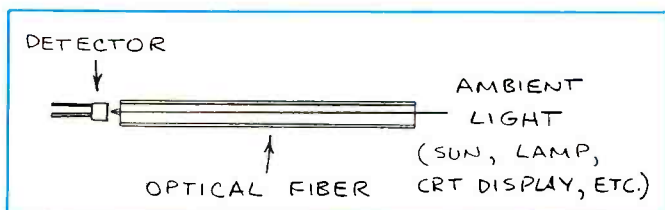
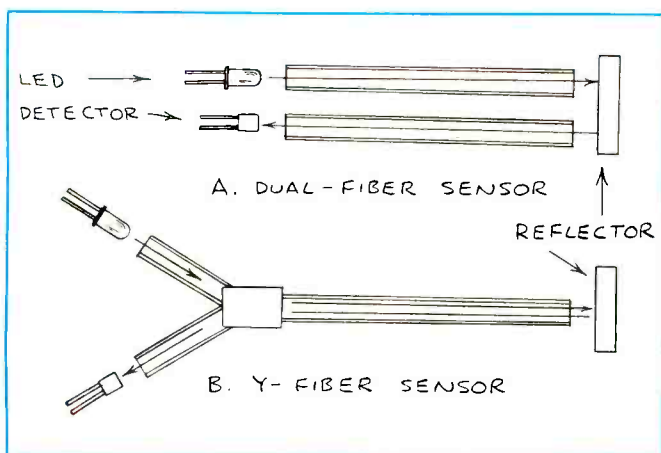

Fig. 1. Details of the simplest indirect-mode fiber-optic sensor.
Fig. 4. An indirect-mode reflective fiber-optic sensor.
Figures 1 through 4 illustrate three basic kinds of indirect-mode fiber-optic sensors. Many different kinds of fiber can be used. In most cases, inexpensive plastic or glass fiber with a large core diameter
Figure 1 illustrates the simplest fiber-optic sensor. Here the fiber serves to transmit ambient light to a detector. A simple circuit connected to the detector can switch on an alarm or trigger another circuit when the exposed end of the fiber receives light from any external source, or when light being received is momentarily blocked. If the light source is stable or if its intensity changes slowly and if the exposed end of the fiber is free to move, this simple arrangement can serve as a vibration detector (more about that later). If the fiber is pointing at a pixel on a computer display, it can indicate when that pixel has been illuminated.
Figure 4 illustrates two more kinds of indirect-mode fiber-optic sensors. In (A) is shown a reflective sensor that uses individual fibers to carry light from a source to a surface and from the surface back to a detector. In this application, the fibers are fixed in place. The reflector is free to bulge, bend, vibrate or move. If the reflector is flexible so that it can bulge in or out, this system can be used to detect pressure changes and vibrations in the surrounding air or liquid. As you'll soon see, it can even function as a microphone. If the reflector is free to move or vibrate, this system can serve as a sensitive detector of motion, acceleration, vibration and pressure. If the color of the reflector changes with temperature changes, this system can monitor temperature.
Figure 4(B) illustrates a modification of Fig. 4(A), in which the two fibers are spliced into a single fiber (or bundle of fibers) at a Y-joint. This provides a single fiber or bundle of fibers that carries light in both directions to and from a reflector. The result is a very compact sensor that can be inserted into tiny openings. Incidentally, a bundle of fibers with a Y-joint is often called a bifurcated fiber-optic cable. Bifurcated fiber-optic cables are very expensive when purchased new. You can make your own using some heat-shrinkable tubing, or you can buy them at a dis-
Look back at Fig. 1 through Fig. 4. Notice that no electronic components or wires are present at the sensing region of each of the five illustrated indirect-mode sensors. This means these sensors can operate in the very harsh environments of pressure chambers, furnaces, freezers and when immersed in corrosive fluids. They can also operate in the presence of electromagnetic pulses and other kinds of electrical noise.